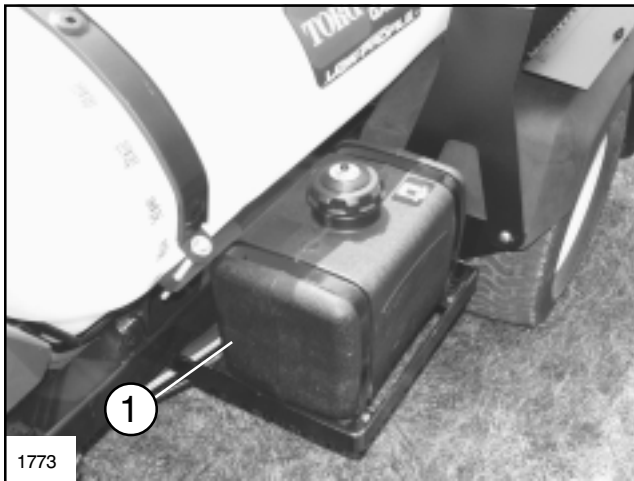

FIG. 3
1. Clean area around fuel tank cap. (See FIG. 3)